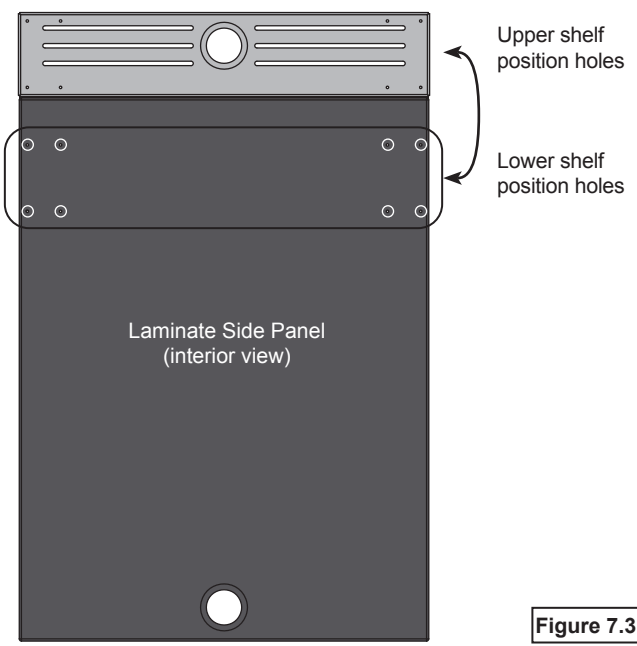

Figure 7.3
2. From inside the lectern, use a drill with a 3/16" drill bit and slowly drill out the corresponding pre-drilled pilot holes located on the laminate side panel. **Figure 7.3**. Masking tape can be used on the exterior to minimize chip-out.